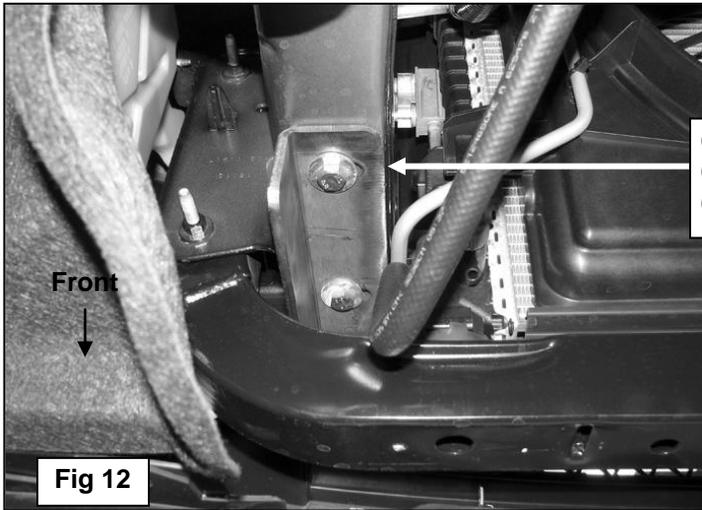

Fig 12
3. Locate the (2) threaded holes in the bottom of the frame channel, (**Figure10**). Select the driver side Frame Mounting Bracket. Hold the Bracket with the mounting tab flat, (**Figure11A**) insert it through the opening and rotate up into position in line with the factory threaded holes, (**Figure11B**). Bolt the Bracket to the frame channel with (2) 10mm x 30mm Hex Bolts, (2) 10mm Large Flat Washers and (2) 10mm Lock Washers, (**Figure 12**). Snug but do not fully tighten the hardware at this time. Repeat this step for passenger side Frame Bracket installation.